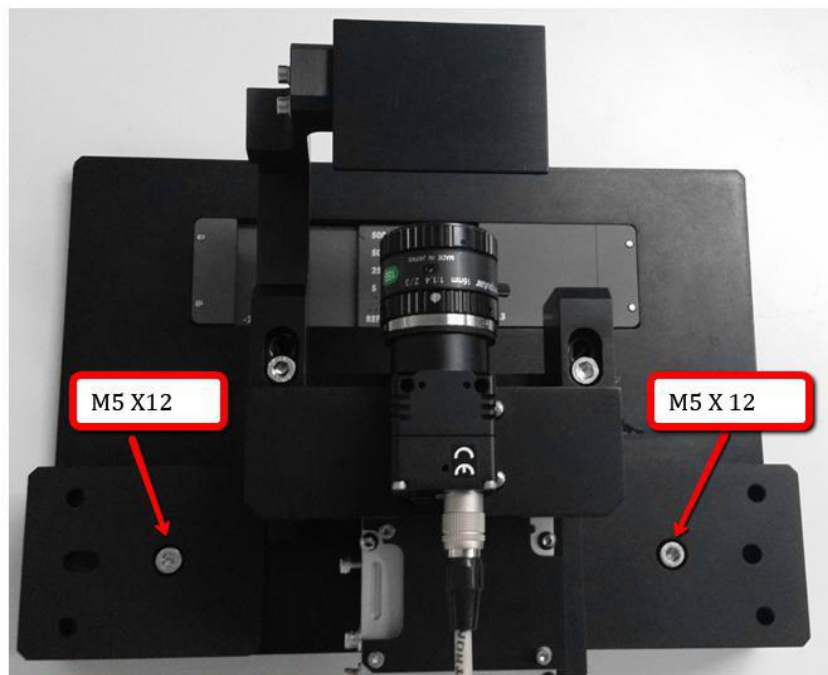

Figure 2 OFFLINE JIG ASSEMBLY
2. Assemble the PSP 2 Module at "STD/XXL PSP Offline Adjustment Jig" by using M5 X 12 as below Figure 2.